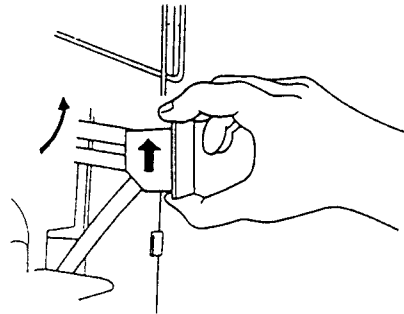

Figure 6-3-17 Removing Rinse Cup
- A. Pull out the Rinse Cup as shown in Figure 6-3-17